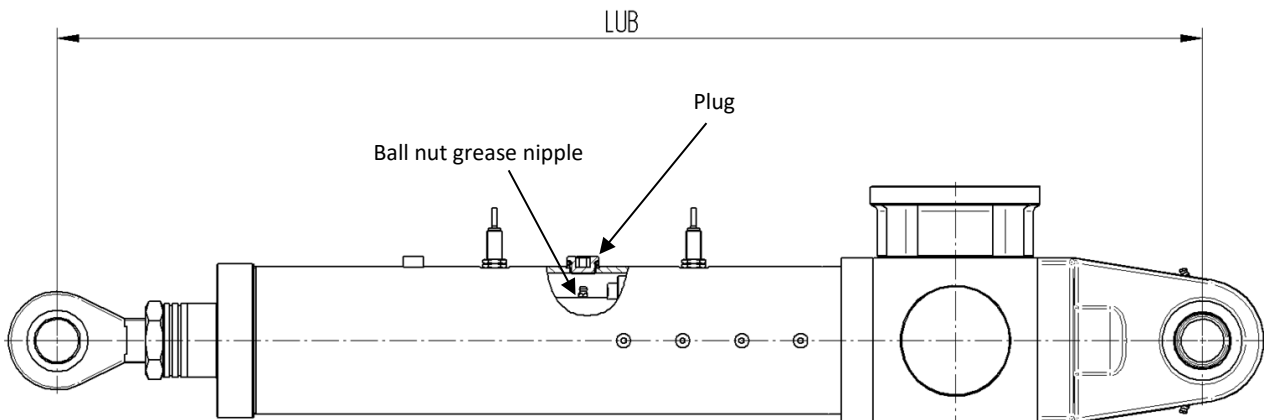

Figure 9.2 – Lubrication position
- The grease nipples on the ball nut is now aligned with the hole on the tube, as shown in Fig. 9.2.